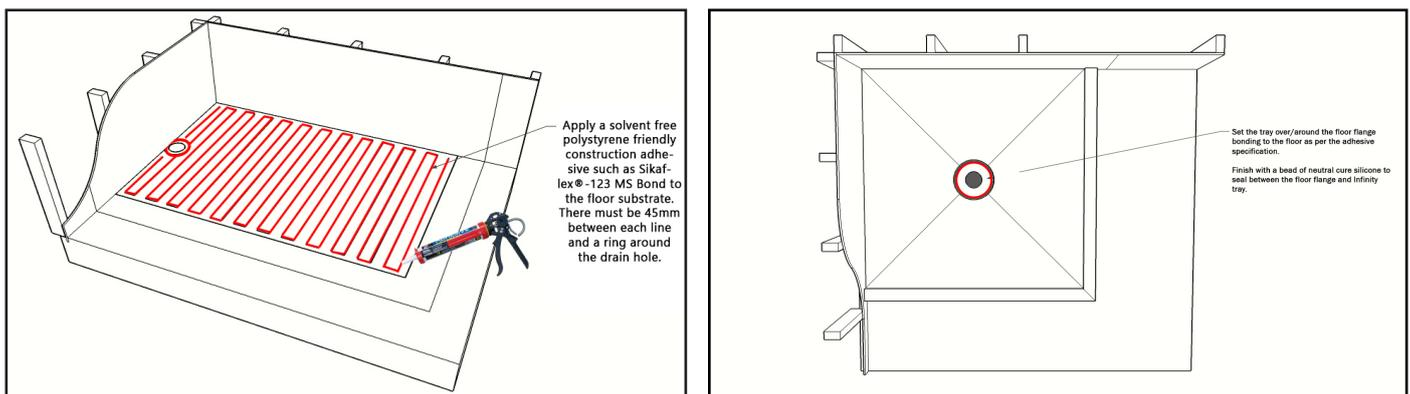

Fig. 4.1: Adhesion of the base using a solvent free polystyrene friendly construction adhesive such as Sikaflex®-123 MS Bond.
a) Apply a solvent free polystyrene friendly construction adhesive such as Sikaflex®-123 MS Bond to the marked floor area. Adhesive should be applied in a zigzag format with a generous bead – this is to prevent any potential air pockets forming under the base. (See Fig. 4.1)